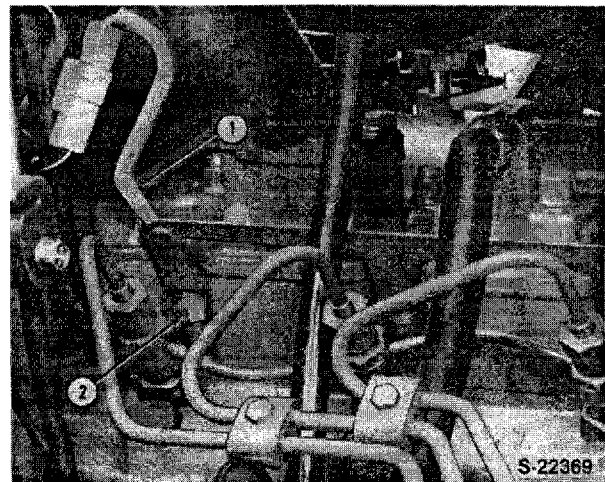

Figure 5
8. Remove the glow plug wire connectors and remove the glow plugs, Figure 5.